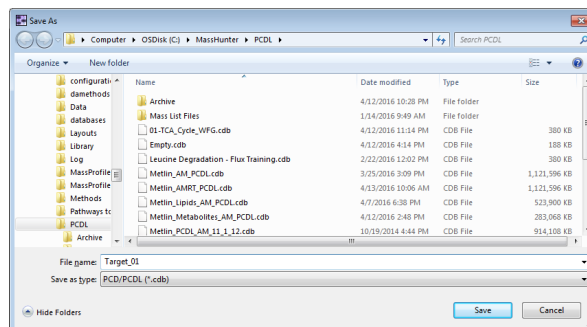

Figure 21 Save As dialog box
- Select the folder to save your PCD/PCDL database (Figure 21). The default folder is C:\MassHunter\PCDL.